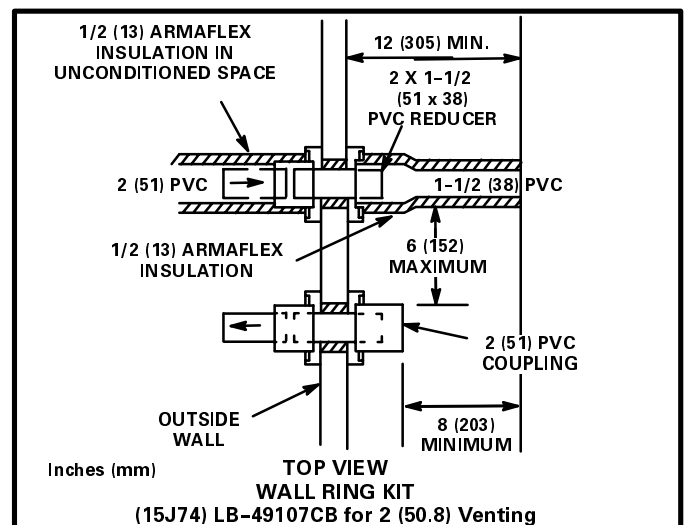

FIGURE 8
- 6 – On field supplied terminations for side wall exits, exhaust piping should extend a minimum of 12" (305mm) beyond the outside wall. Intake piping should be as short as possible. See figure 8.